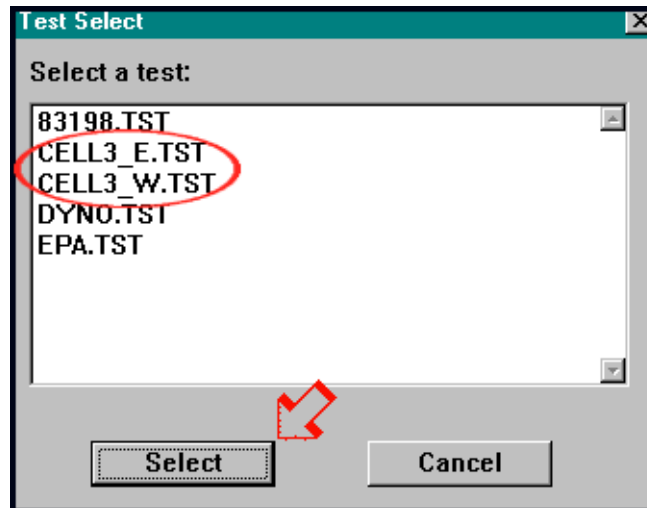

Figure 5
- 107 On the "Select Test" dialog box, under "Select a test," choose the appropriate test: "CELL#_E.TST" or "CELL#_W.TST". See the circle in Figure 5.
Click on the "Select" button. See the arrow in Figure 5. The "ADAPT c:\adapt\epa_cell3ini" screen will return.